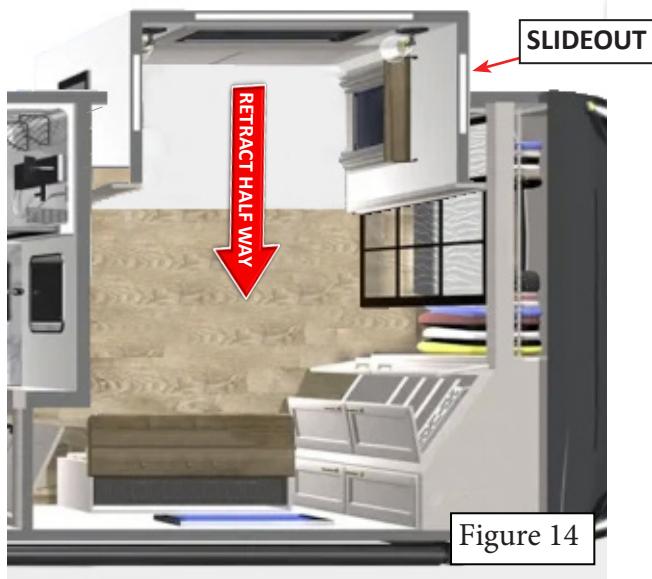

Figure 14
15. Retract the bedroom slide to a position where it is approximately halfway in (Figure 14) to access the back side of the fascias.
15. Remove the slide-out columns from the sides of the slide-out room (Figure 14) by sliding them out of their mounting brackets. NOTE that there is a small plastic rivet that will break while trying to remove the columns; this can be replaced during re-installation with another plastic rivet or a screw (not provided).